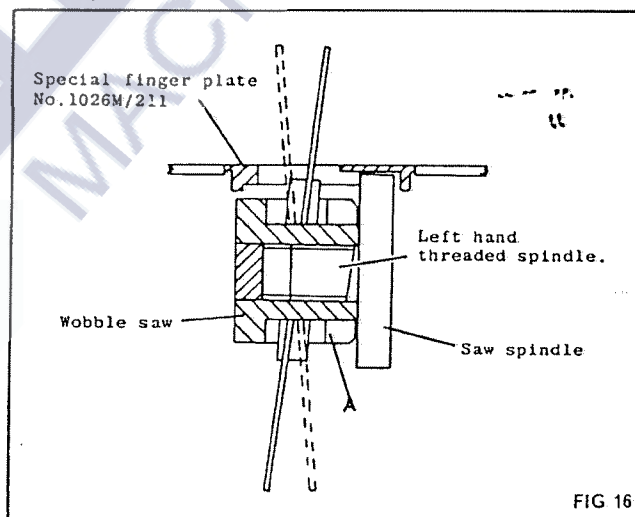

FIG 16
2. Screw wobble saw to saw spindle as shown in FIG.16.